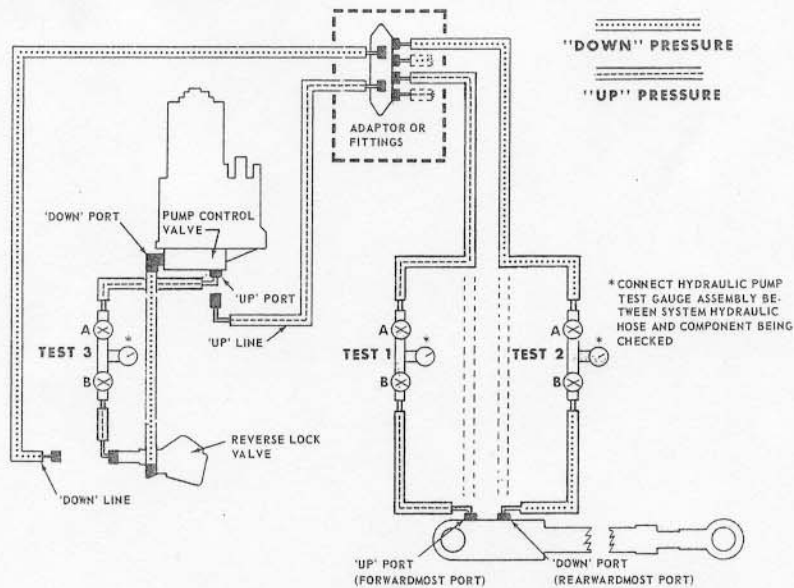

Figure 1. Hydraulic Circuits
1. Install test gauge in "Up" circuit with both valves ("A" and "B") open. (Figure 1)
1. Install test gauge in "Down" circuit with both valves (A and B) open. (Figure 1)
1. Disconnect "Up" line from hydraulic pump. Cap line, then install test gauge line into "Up" circuit. (Figure 1) Keep hydraulic and gauge assemblies clean.
2. Disconnect "Down" line on reverse lock valve (Figure 1) leading from cylinders. Cap line, then install test gauge line to reverse lock valve. Open valve "A" and "B".